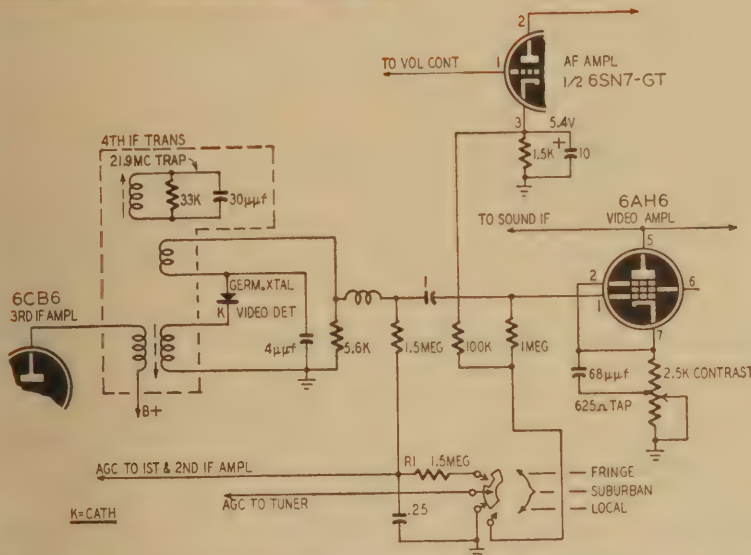

Fig. 1—Sensitivity-control switching in Motorola TS-400A TV chassis.
**M**ANY modern television sets have auxiliary controls on the back for adjusting the sensitivity for optimum performance in weak-, medium-, and strong-signal areas. Fig. 1 shows the area-control circuit used in the Motorola TS-395A and TS-400A chassis. Slightly different versions are used in other late Motorola receivers. The LOCAL, SUBURBAN, and FRINGE settings adjust the sensitivity of the receiver for strong, medium, and weak signals, respectively.
i.f.-amplifier stages and through a 1.5-megohm isolating resistor (R1) to the r.f.-amplifier and mixer grids in the tuner. In the SUBURBAN position (that shown in Fig. 1) a.g.c. voltage is removed from the tuner, and the r.f.-amplifier and mixer grids are returned to ground. The FRINGE position is used when the incoming signals are weak, and the set must operate with maximum sensitivity. This grounds R1 and lowers the a.g.c. voltage on the i.f.-amplifier tubes to one-half the value applied in the LOCAL and SUBURBAN positions. In this position the video amplifier grid resistor is returned to ground to improve noise limiting ahead of the sync take-off point. The area selector control should be adjusted to the position which gives the clearest and most stable picture on all active channels.